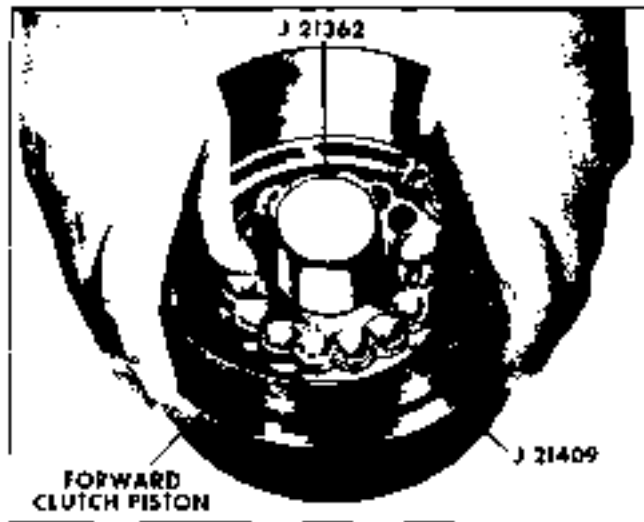

Fig. 7E-88 Installing Forward Clutch Piston
1. Place new inner and outer oil seals on clutch piston, lips face away from spring pockets (Fig. 7E-85).